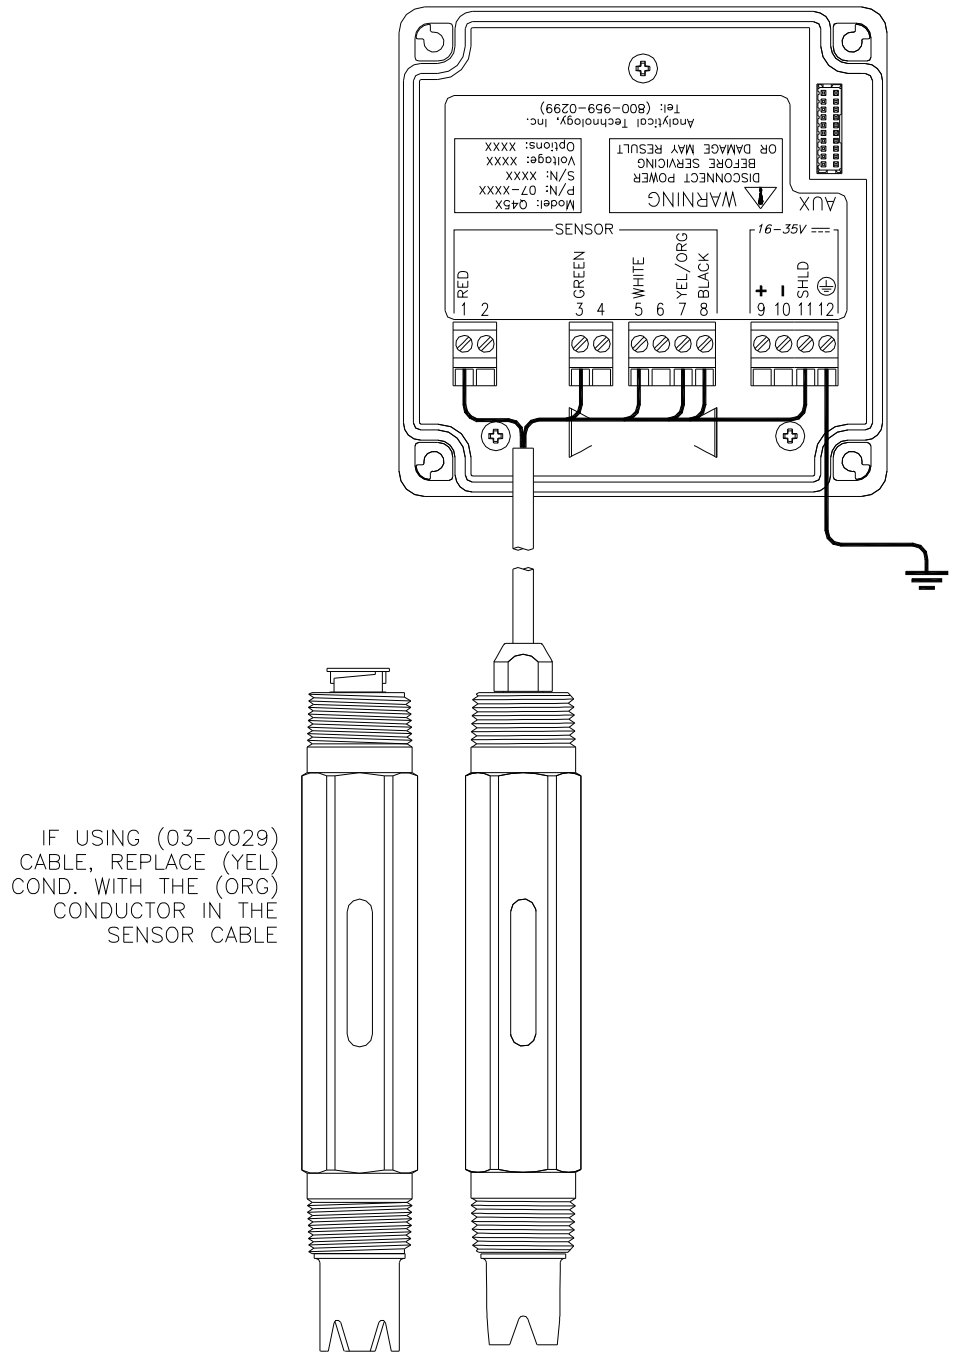

Figure 17 - Loop Power Wiring Diagram
1. Use wiring practices that conform to all national, state and local electrical codes. For proper safety as well as stable measuring performance, it is important that the earth ground connection be made to a solid ground point from terminal 12 (Figure 17).